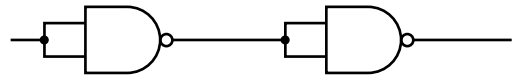

Fig. 7b
- (i) Complete Fig. 7b to show how the frequency of the output can be made adjustable. [2]